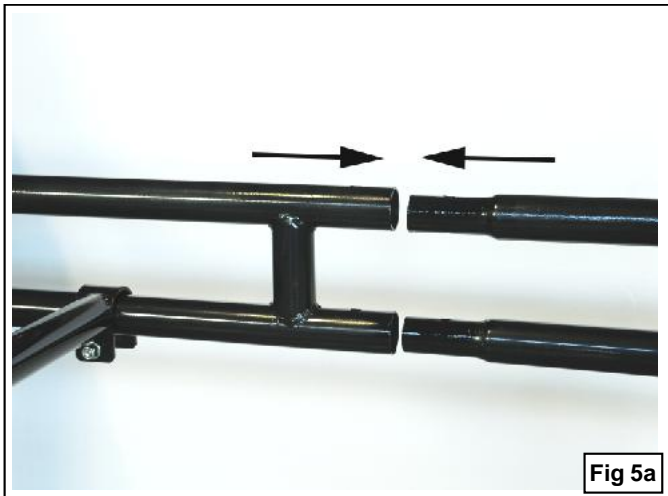

Fig 5a
Step 5: Slide the front and rear Side Rails together (**Figure 5a**).